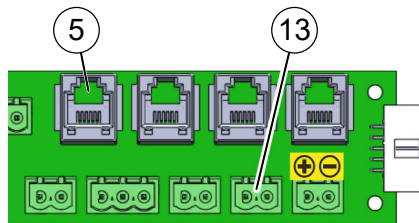
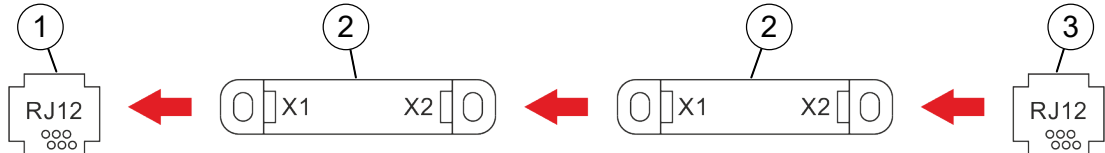

Fig. 52: Connections for door contact switches
Fig. 53: Installation diagram
Door contact input "5" (Fig. 52/5) is designed for the *Rittal* "RJ12 plug" door contact switch (Fig. 53/2).
- 1 Door contact input "5" (Fig. 52/5)
1. ➤ Connect the "RJ12 plug" door contact switch (Fig. 53/2) to door contact input "5" (Fig. 52/5) as per Fig. 53.
2. ➤ Connect the "Terminating resistor" RJ12 plug (Fig. 53/3 or Fig. 54/1).
3. ➤ Remove the pre-fitted end-of-line resistor (Fig. 52/13) when using the "RJ12 plug" door contact switch.